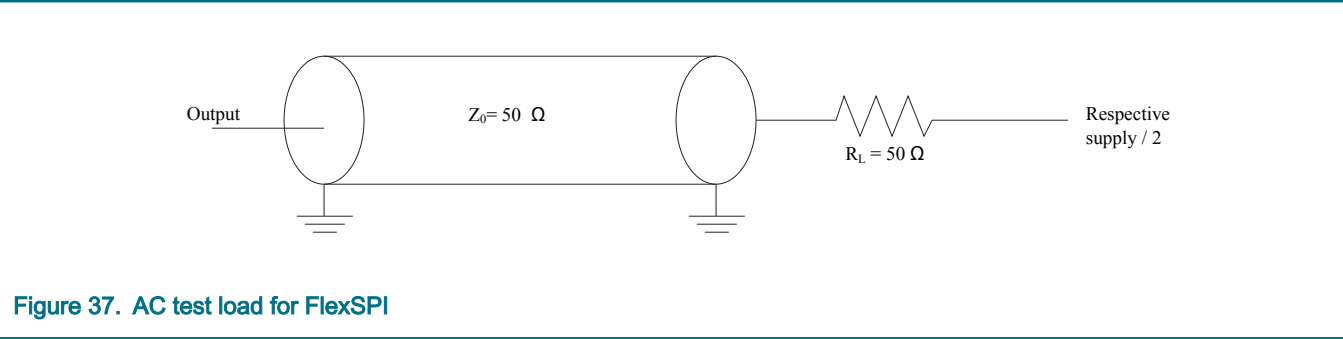
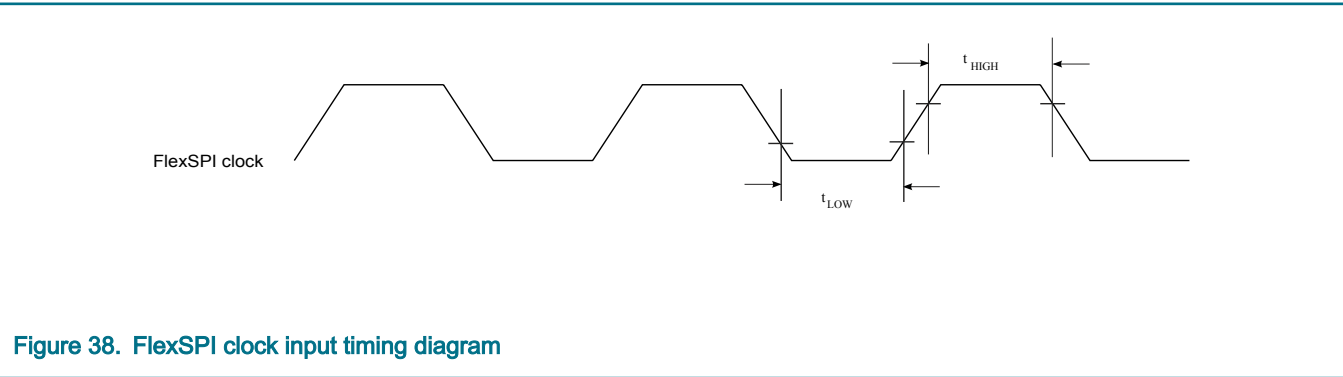
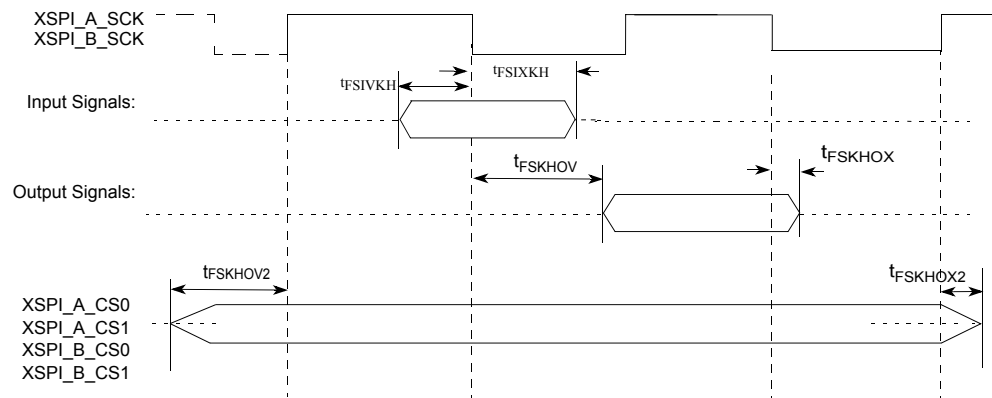
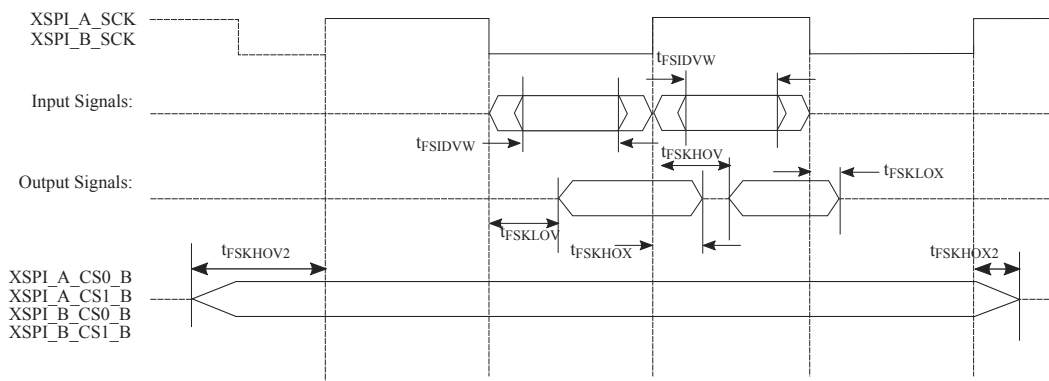

Figure 37. AC test load for FlexSPI
Figure 38. FlexSPI clock input timing diagram
Figure 39. FlexSPI SDR mode AC timing diagram
Figure 40. FlexSPI DDR mode 1 and 2 AC timing diagram
1. Refer the FLSHxyCR1 QorIQ LX2160ARM for more details, where x: A or B, y: 1 or 2 2. See Figure 37. 3. See Figure 38. 4. See Figure 39. 5. T = FlexSPI clock period
1. Refer the FLSHxyCR1 QorIQ LX2160ARM for more details, where x: A or B, y: 1 or 2 2. See Figure 37 . 3. See Figure 38 . 4. See Figure 39 . 5. T = FlexSPI clock period
1. Refer the FLSHxyCR1 QorIQ LX2160ARM for more details, where x: A or B, y: 1 or 2 2. For DDR, Unit Interval (UI) is half of period. For example, 5 ns for 100 MHz 3. See "Data Learning Feature" section in QorIQ LXxxxxARM for details 4. See Figure 37 . 5. See Figure 38 . 6. See Figure 40 . 7. T = FlexSPI clock period
2. See Figure 37.
3. See Figure 38.
4. See Figure 40.